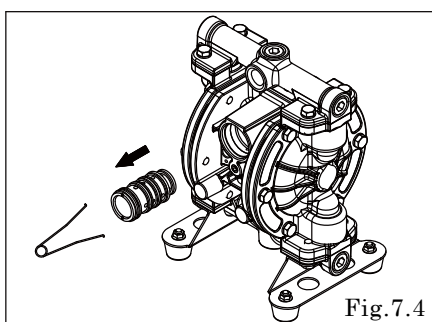

Fig. 7.4
- Remove the sleeve using the sleeve remover (special tool: Part number 713148). [Fig. 7.4]